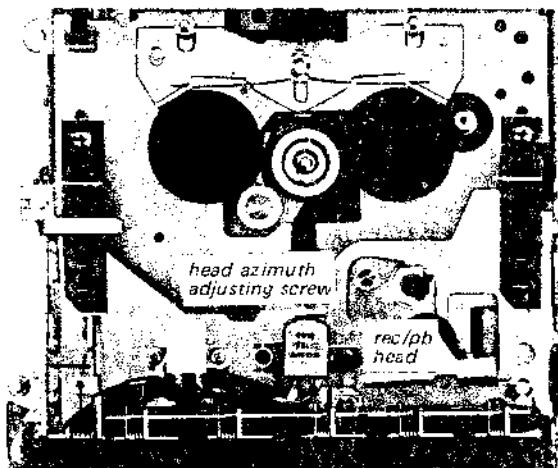

Fig. 4-4. Adjusting parts location
- Adjust the azimuth adjusting screw (see Fig. 4-4) for maximum output on the ac VTVM.